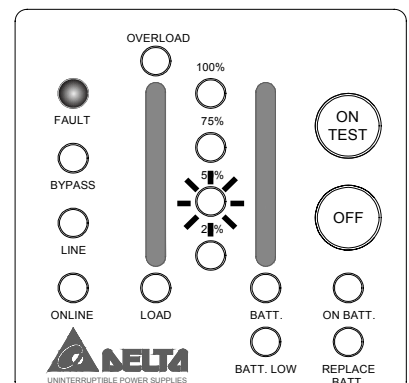

Figure 3-15 (Inverter U.V.P.)
- ✓ When under (or over) voltage is happened in the UPS output. This kind of fault will be detected by the microprocessor in the UPS and is so-called **“U.V.P”** (**“O.V.P”**). Show as Figure 3-15, 3-16.